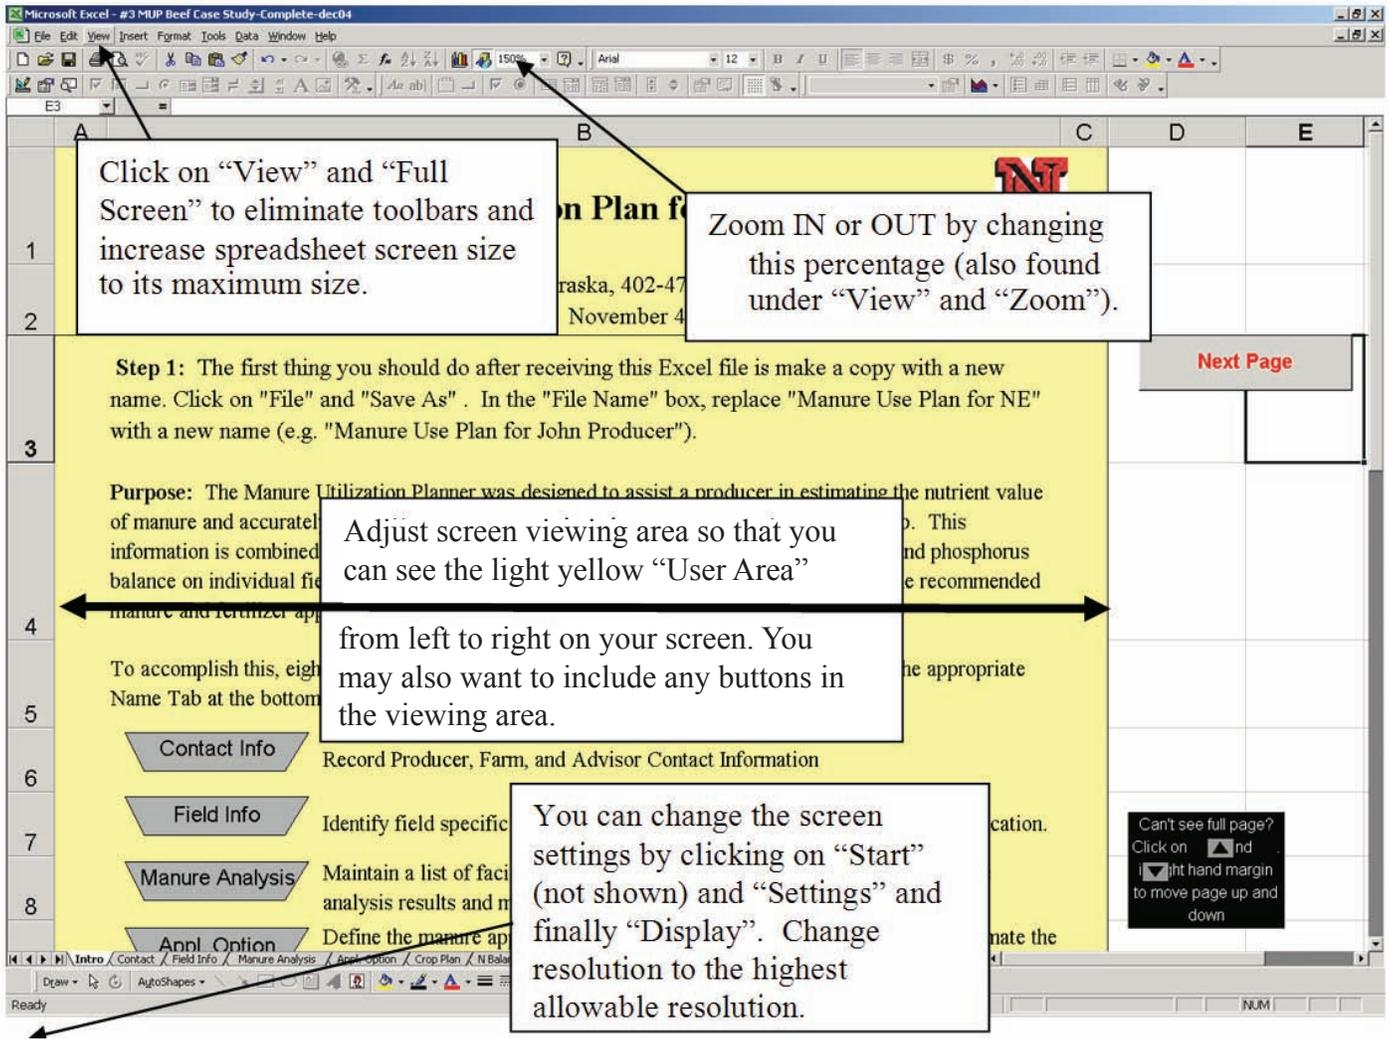

Figure 6. Adjusting “View” settings.
- a. Click on “View” and then “Zoom.” Adjust the “% Zoom” to your personal preference (Figure 6).